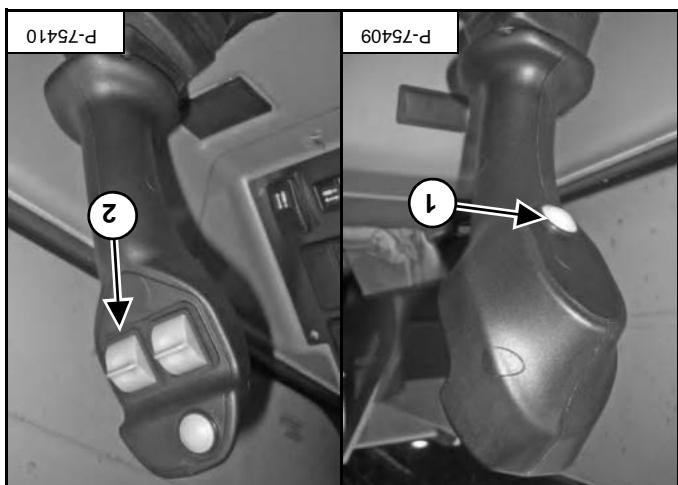

Figure 59
Press the button (item 1) [Figure 59] for continuous clockwise tiller rotation. Press the button a second time to stop tiller rotation.
To stop anticlockwise rotation, press the switch (item 1) [Figure 59] a second time.